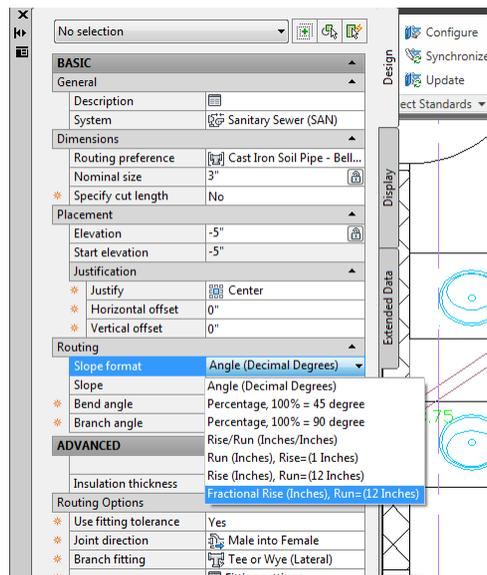

Figure 6.60
12. Change the Slope format to: **Fractional Rise (Inches), Run=(12 Inches) (ex. ¼ where run is 12)** (see Figure 6.60).